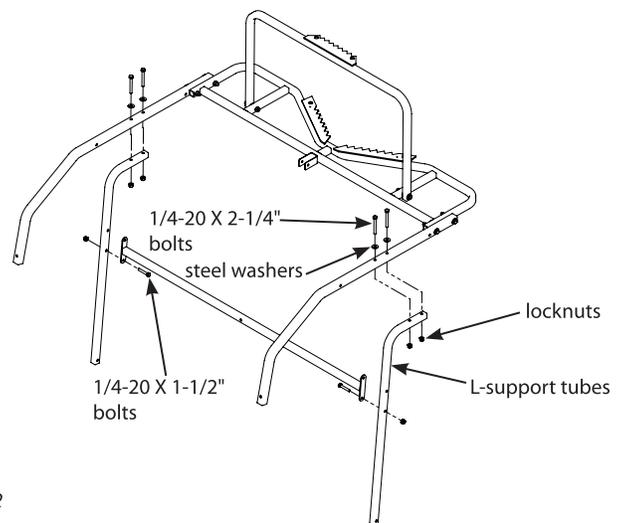

Figure 2
3. Attach the L-support tubes (14120) to the bottom of armrest rails using (4) provided 1/4-20 x 2-1/4" bolts, locknuts and steel washers. **SEE FIGURE 2.**
4. Attach the seat support weldment (14125) to the L-support tubes using (2) provided 1/4-20 x 1-1/2" bolts and locknuts. **SEE FIGURE 2.**